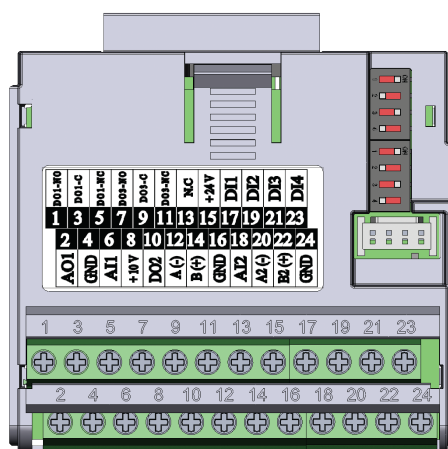

Figure 16.1: Plug-In Module CFW500-CRS485
The CFW500-CRS485 plug-in module has Serial (1) interface through RS485 port at terminals 12(A-) and 14(B+), as well as the Serial (2) interface through another RS485 port at terminals 20(A2+) and 22(B2+); see Figure 16.1: Plug-In Module CFW500-CRS485 on page 16-1.